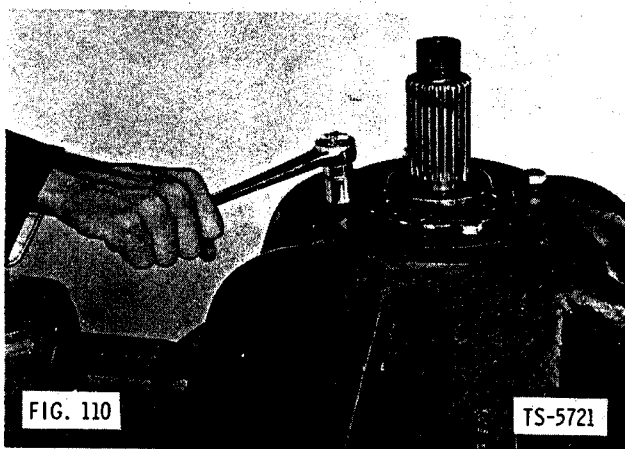

FIG. 110
1. Install bearing cage and pinion shaft assembly in differential carrier assembly without bearing cage shims. Use four pinion oil seal retainer bolts with flat washers to pull pinion shaft assembly fully into carrier assembly (Fig. 110). Make sure oil passages are aligned. Install three flat washers on each bolt to prevent them from bottoming.